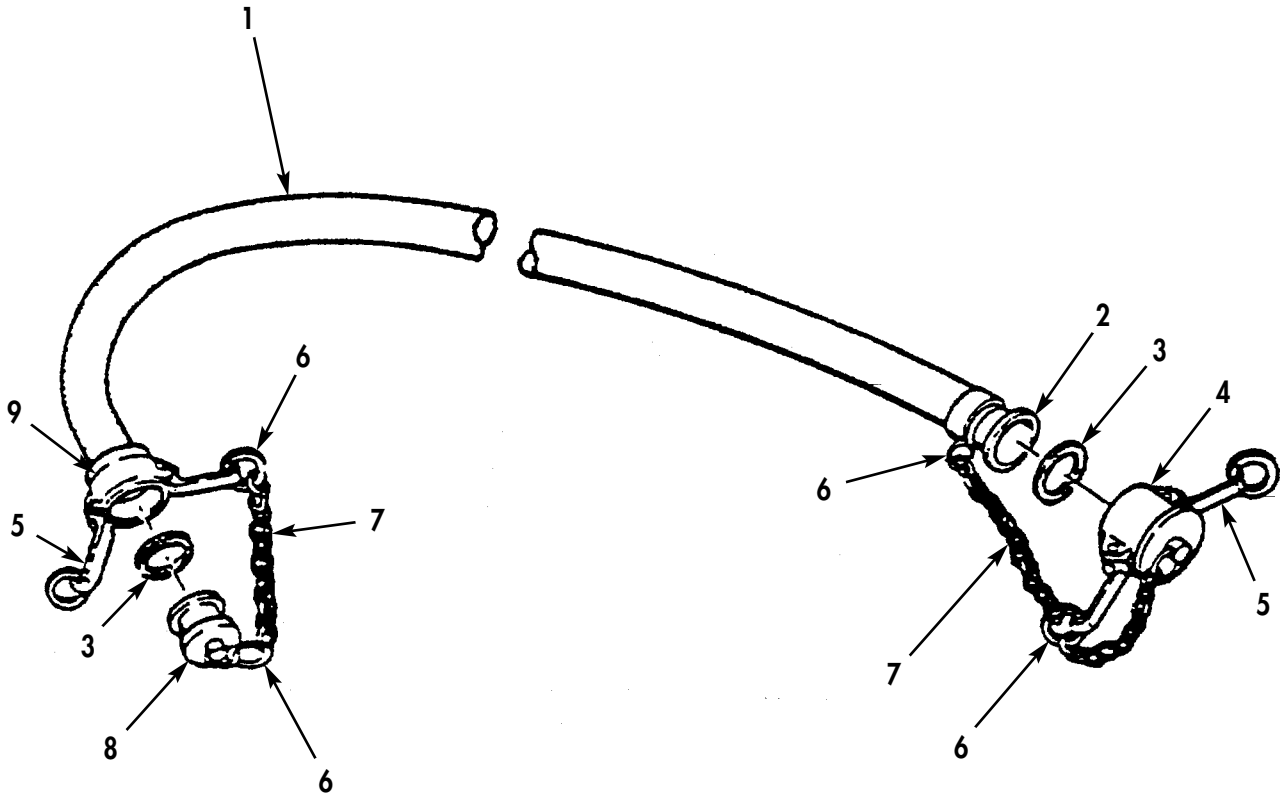

Figure 2. Hose Assembly.
2. Using cleaning solvent, brush, and clean cloth, remove all build-up of oil and dirt from exterior of coupling halves (Figure 2, Item 2) and (Figure 2, Item 3) on hose (Figure 2, Item 1). Dry coupling halves with clean cloth.
3. Using soap and water, wash exterior surfaces of hose (Figure 2, Item 1) and coupling halves (Figure 2, Item 2) and (Figure 2, Item 9). Rinse exterior surfaces thoroughly.
4. Remove dust cap (Figure 2, Item 4) and plug (Figure 2, Item 8) from coupling halves (Figure 2, Item 2) and (Figure 2, Item 9), and remove and discard gasket (Figure 2, Item 3) from cap (Figure 2, Item 4) and coupling half (Figure 2, Item 9).
5. Wash cap (Figure 2, Item 4), plug (Figure 2, Item 8), coupling halves (Figure 2, Item 2) and (Figure 2, Item 9), and inside of hose (Figure 2, Item 1) with soap and water solution. Rinse all items with clean water and dry with clean cloth.
1. Inspect exterior of hose (Figure 2, Item 1) for cuts and punctures. If any cuts or punctures are found, discard hose assembly.
2. Inspect coupling half (Figure 2, Item 2) for cracks, distortion, and damage to mating surfaces that would result in leaks. If any cracks, distortion, or damaged mating surfaces are found, discard hose assembly.
3. Inspect coupling half (Figure 2, Item 9) for cracks, distortion, missing or excessively worn cam arms (Figure 2, Item 5), and damage to mating surfaces that would result in leaks. If cam arms (Figure 2, Item 5) are missing, worn, or damaged, or if any cracks, distortion, or damaged mating surfaces are found, discard hose assembly.
4. Inspect dust cap (Figure 2, Item 4), plug (Figure 2, Item 8), two retaining chains (Figure 2, Item 7), and four retaining rings (Figure 2, Item 6) for damage or if missing. Replace any damaged or missing item. Refer to WP 0032.
5. Install dust cap (Figure 2, Item 4) and new gasket (Figure 2, Item 3) on coupling half (Figure 2, Item 2), and install plug (Figure 2, Item 8) and new gasket (Figure 2, Item 3) on coupling half (Figure 2, Item 9).